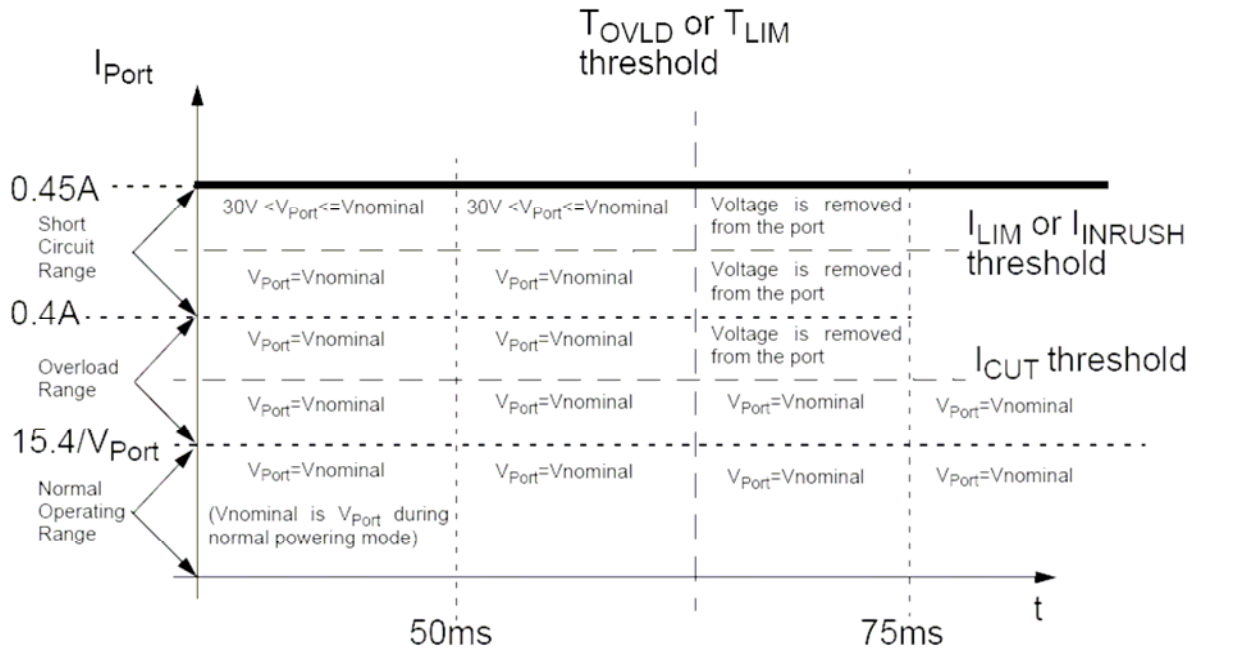

Figure 33C.6
[1] IEEE Std 802.3af-2003: Subclause 33.2.8.6, 33.2.8.7, Table 33-5, Figure 33C.6
**Discussion:** The PSE monitors the current ( $I_{Port}$ ) drawn by the PD. If  $I_{Port}$  exceeds the overload current detection range  $I_{CUT}$  ( $P_{class} / 44V$  to 400mA) for greater than 75ms ( $T_{Ovld}$ ), the PSE should remove power from its PI. If the PSE does not implement classification then  $I_{CUT}$  should lie within the range of  $(15.4/V_{Port})$  to 400mA. Figure 33C.6 that depicts the relationships between overload detection and timing is printed here for convenience.